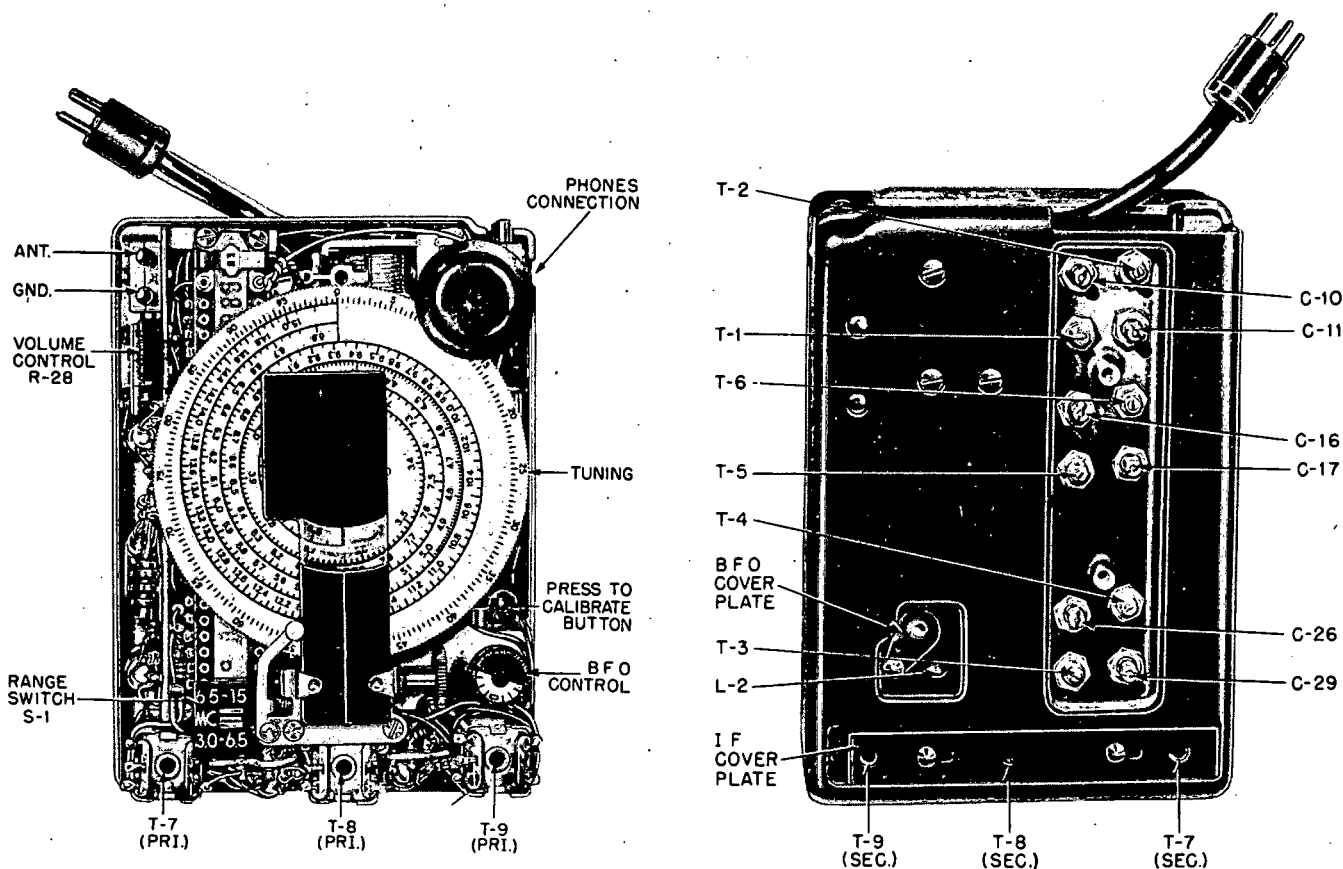

Figure 13. Receiver RR-6-XX top & bottom views showing alignment adjustment locations
(1) Connect the equipment, as directed in Chapter 2, Section I (do not connect phone, as the output impedance will be reduced by one-half).
(2) Set RECVR-TRANS switch on Filter-Accessory Unit RA-6-XX to RECVR.
(3) Expose bottom alignment adjustments as follows (see Figure 13):
(5) Remove the top cover and turn VOLUME control to maximum volume.
(6) Refer to Figure 13 for adjustment loca-
(2) Set generator output high enough to give about 5 mw output on the meter.
(3) Tune the primaries and secondaries of T-9, T-8, & T-7 for maximum output on meter. (See Figure 13).
(4) The i-f sensitivity is normal if a generator output of 50 microvolts or less produces 5 mw output.
(1) With equipment connected as above, turn off generator modulation, and set BFO dial to zero. (The zero on the dial should be at three o'clock when viewed as in Figure 13).
(2) Adjust bfo coil (L-2) for zero beat.
(3) After alignment of bfo, apply glyptal to the slug.